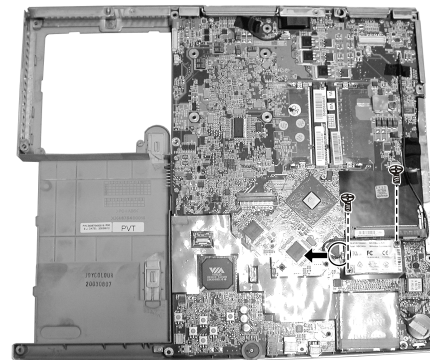

Figure 2-29 Remove the modem card
7. To remove the modem card, remove two screws and disconnect the wire. (Figure 2-29)